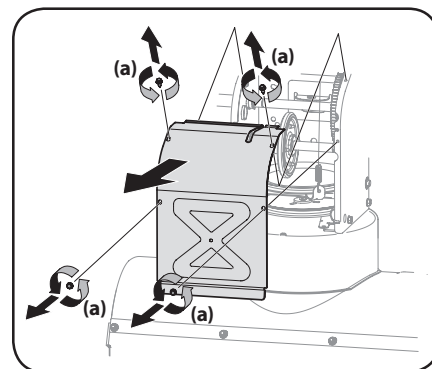

Figure 4-4
3. Remove frame cover from underside of unit by removing self-tapping screws (a) which secure it. Refer to Figure 4-4.
6. Remove frame cover from underside of unit by removing self-tapping screws which secure it. See Figure 4-4.